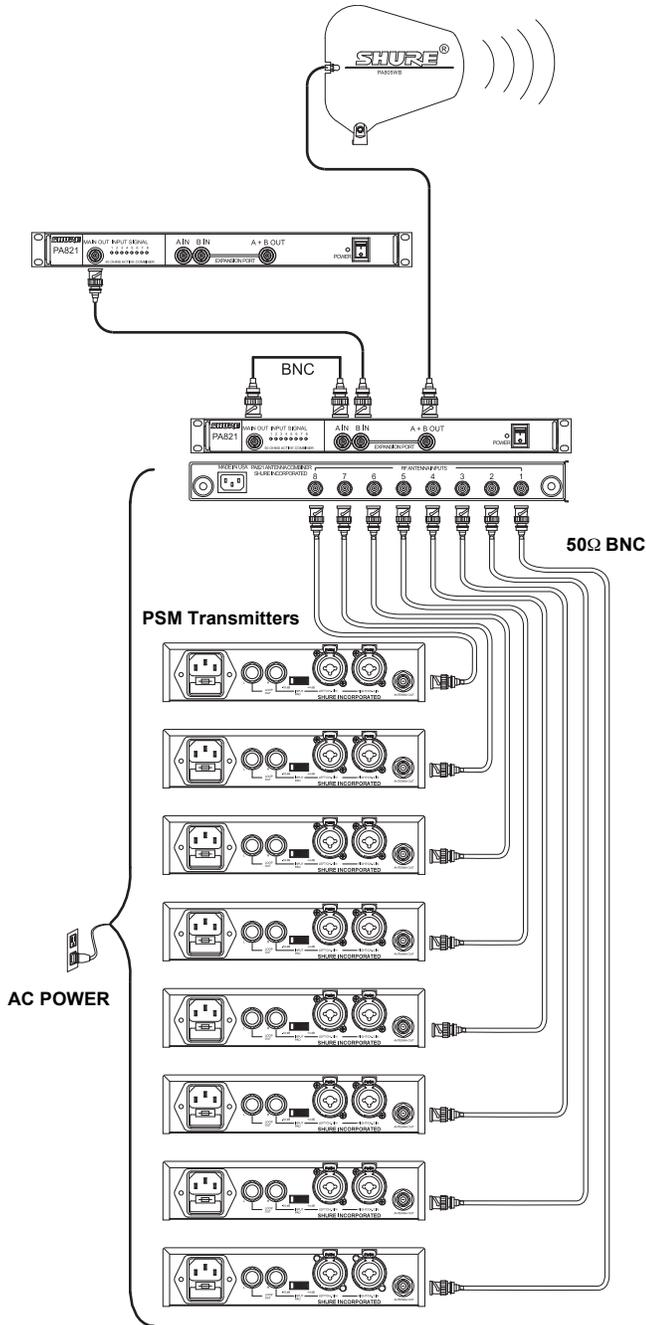

FIGURE 3
4. Attach an antenna to the **A + B OUT** of the **EXPANSION PORT**. For wideband applications, use the PA805 directional antenna, Figure 3.